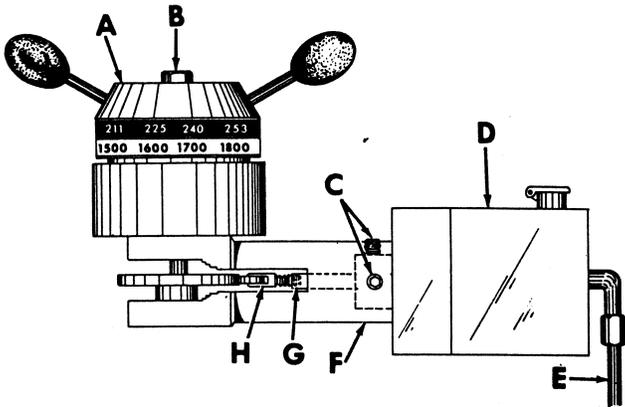

FIGURE 25
1. Start lathe and turn speed control (A, Fig. 25) to top speed. Stop lathe and remove hydraulic hose (E) (use container to catch oil).
5. Remove rod (G, Fig. 25) from housing (F) and insert rod into upper cylinder (D) making sure socket set screw end is exposed.
6. Hold speed control (A) firmly against low speed stop while mounting upper cylinder (D) against housing (F) – secure with set screws (C).
7. Install hydraulic line (E).
- B. Loosen bleeder screw (D, Fig. 25) a few turns until oil starts coming out around the screw. *No bleeder is fitted.*